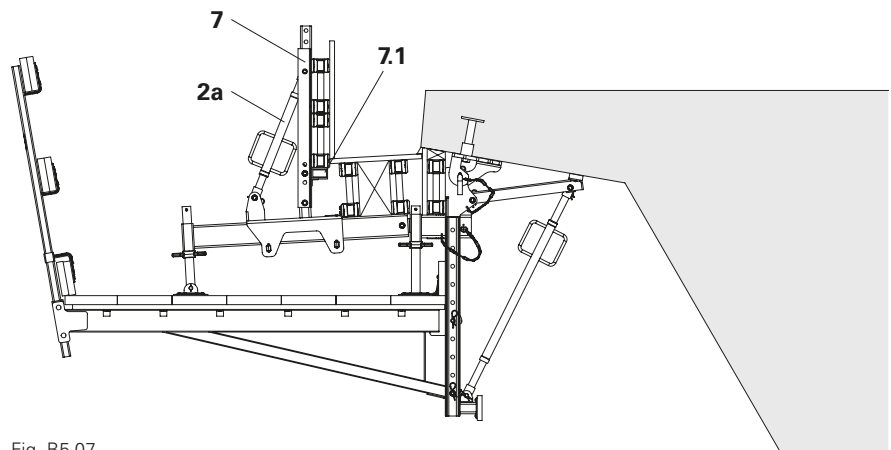

Fig. B5.07
2. Align Formwork Post VGK 70 (**7**) with Kicker AV 82 (**2a**). (Fig. B5.07)